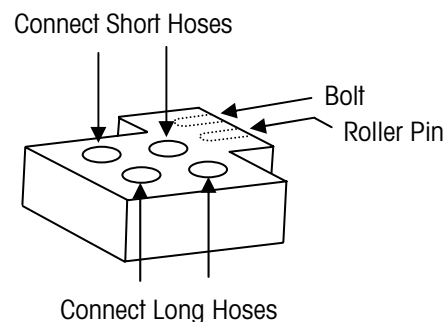

Figure 9-2: Block Manifold Installation
3. Connect the male ends of the hoses to the threaded holes in the block manifold as shown in Figure 9-2. Use a wrench to tighten the connections so that they are snug.